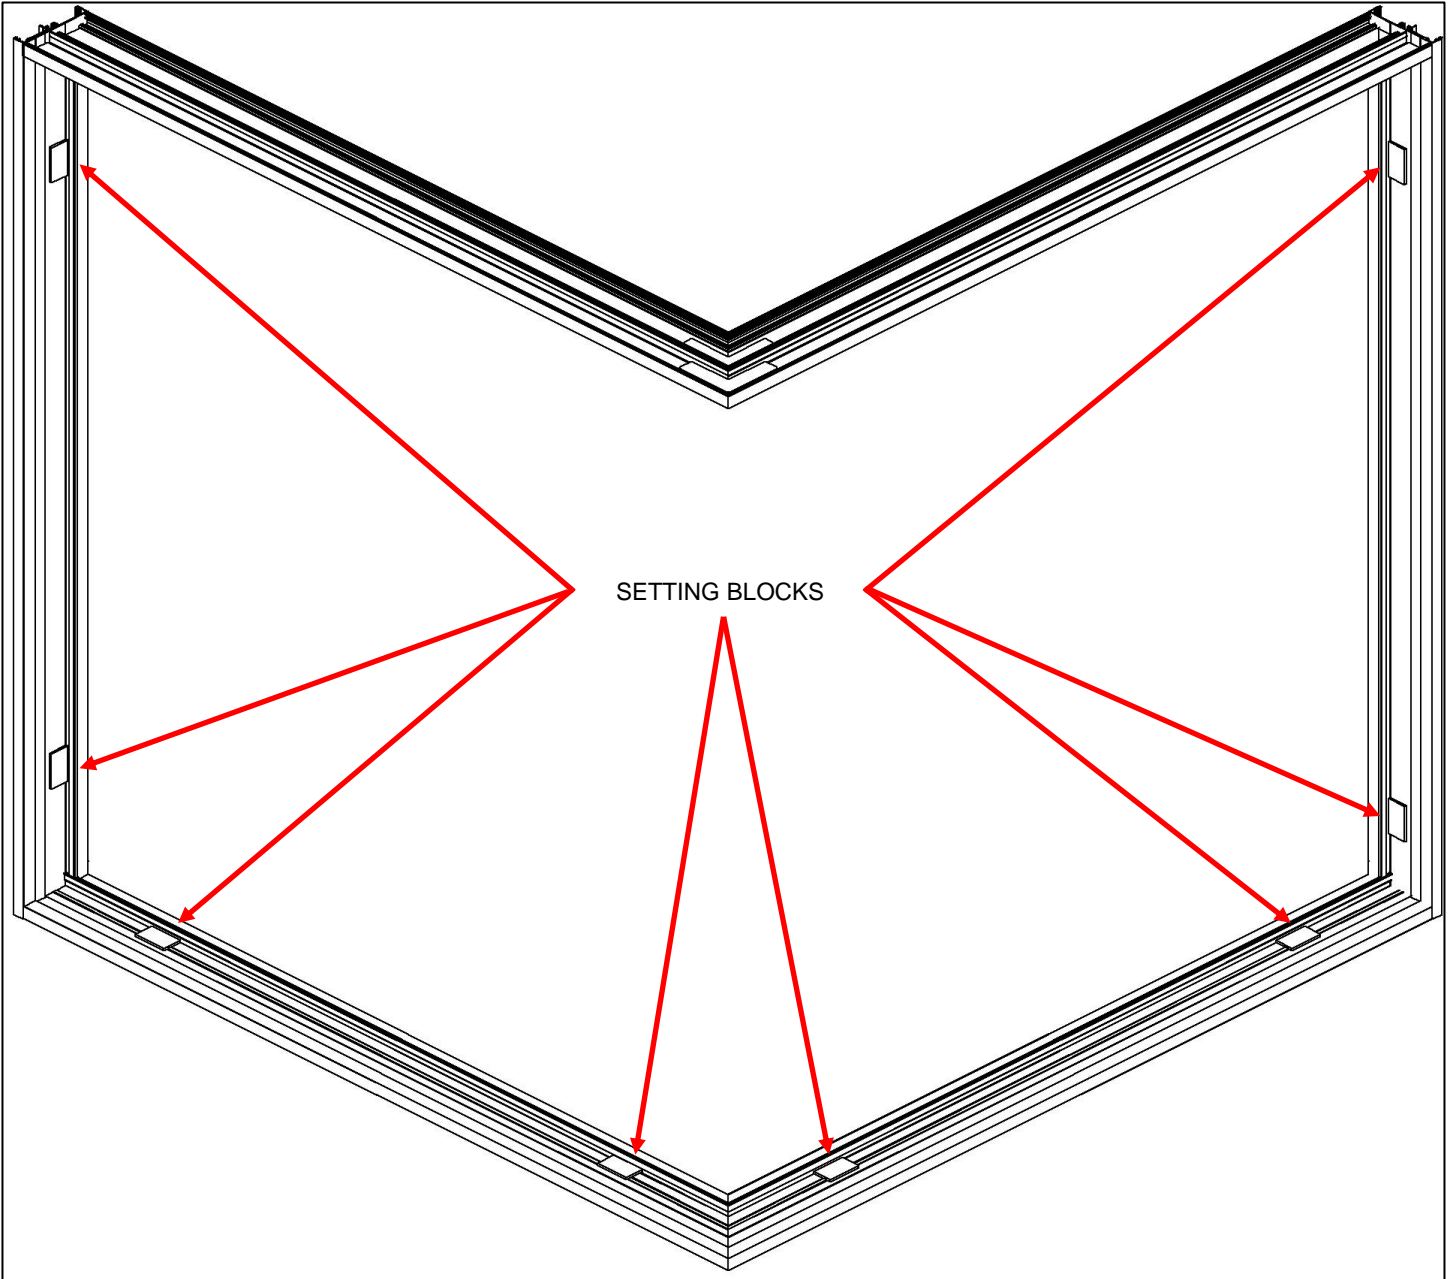

Fig. 6
- 10. Put the 1/4" setting blocks on the sill and jambs (see Fig. 6).